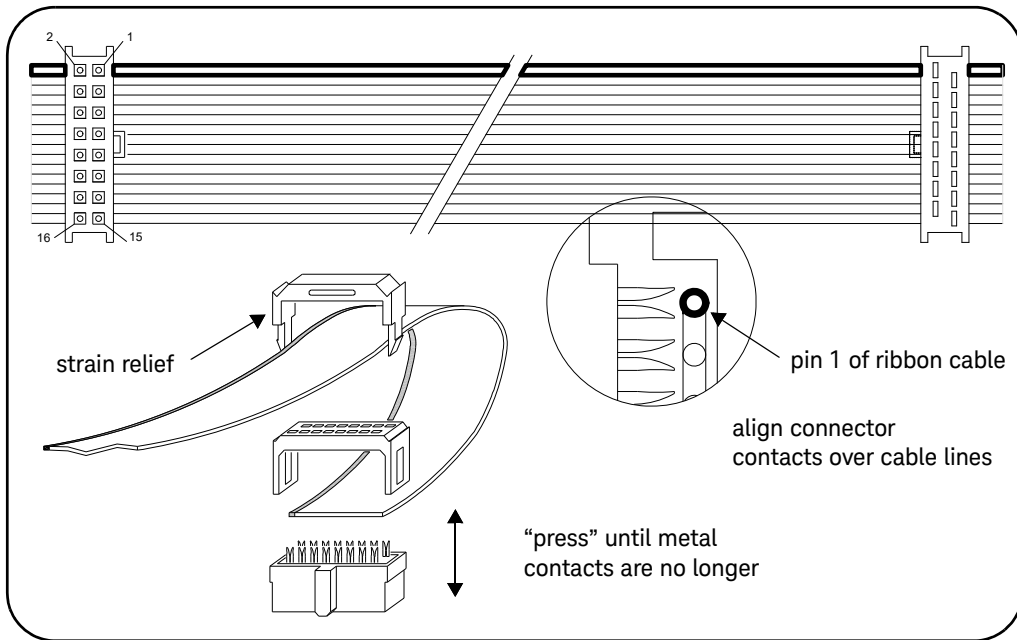

Figure 1-7 Y1159A 16-pin to 16-pin Connector Orientation and Cable Routing.
- 2** Position the ribbon cable connectors as shown in Figure 1-7. Route the cable **through** the connectors, noting the location of pin 1 on the cable. By convention, pin 1 is indicated in red (the dark line in the drawing).
- 6 Fasten the strain relief clamps over the cable and into the ribbon cable connectors as shown in Figure 1-7. Remove any excess cable after the clamps are in place.